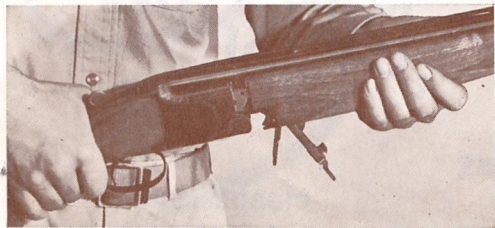

Fig. 2
- 2° Slide the complete fore-end towards the muzzle so as to disengage the fore-end lock. This will then also hang down (fig. 2).